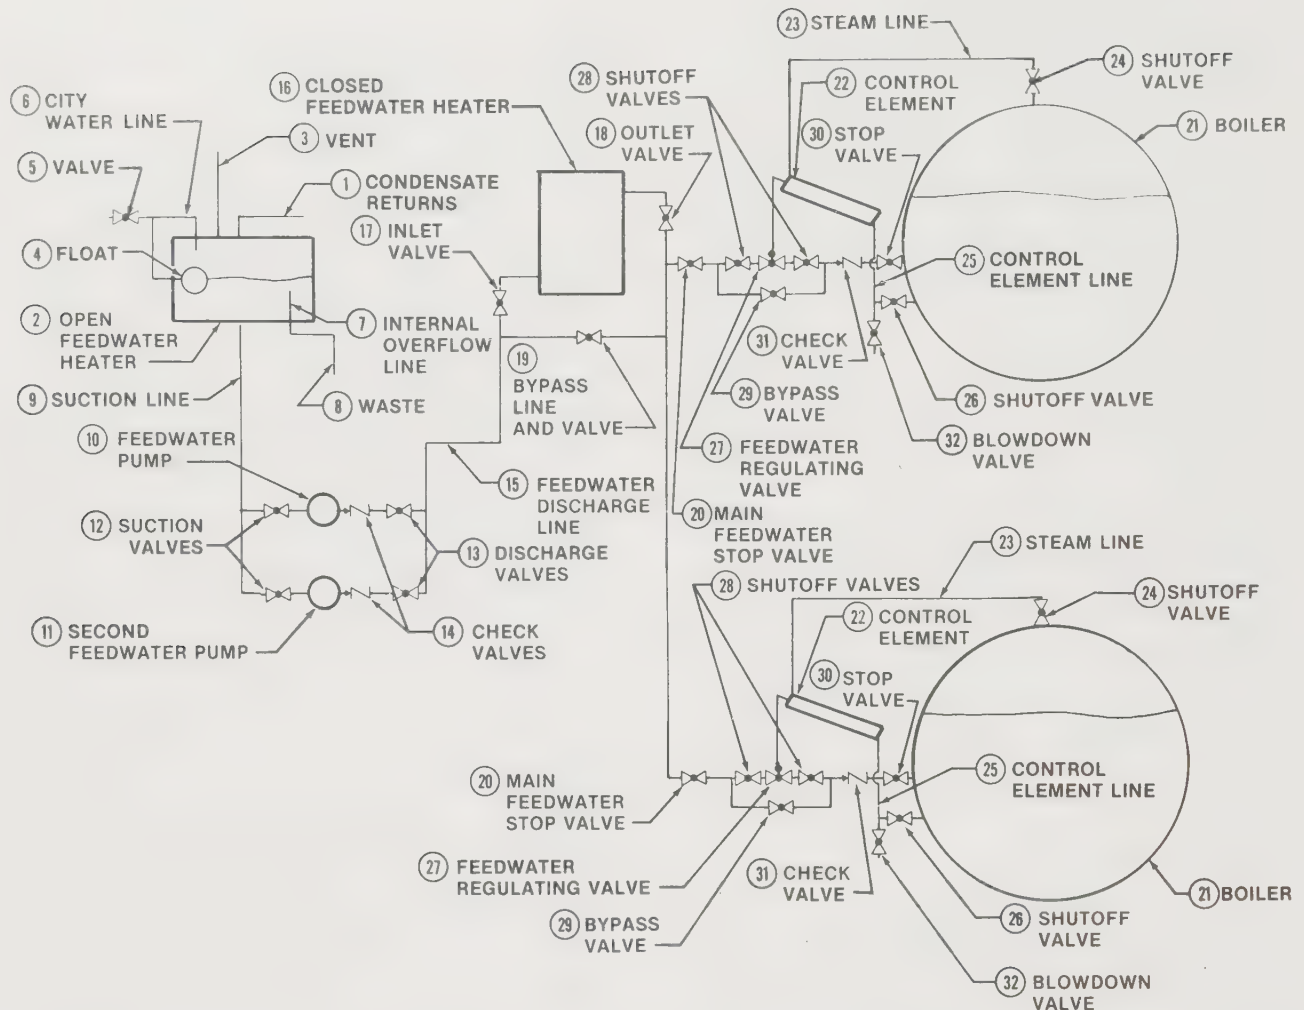

Figure 3-2. The feedwater system must supply sufficient water at the proper temperature and pressure to maintain a normal operating water level (NOWL).
The feedwater system has many components that must function in an orderly fashion to provide a normal operating water level (NOWL). See Figure 3-2. The condensate (1) returns from the system and enters the open feedwater heater (2). Oxygen and other noncondensable gases are separated and vented to the atmosphere (3). All of the steam does not return